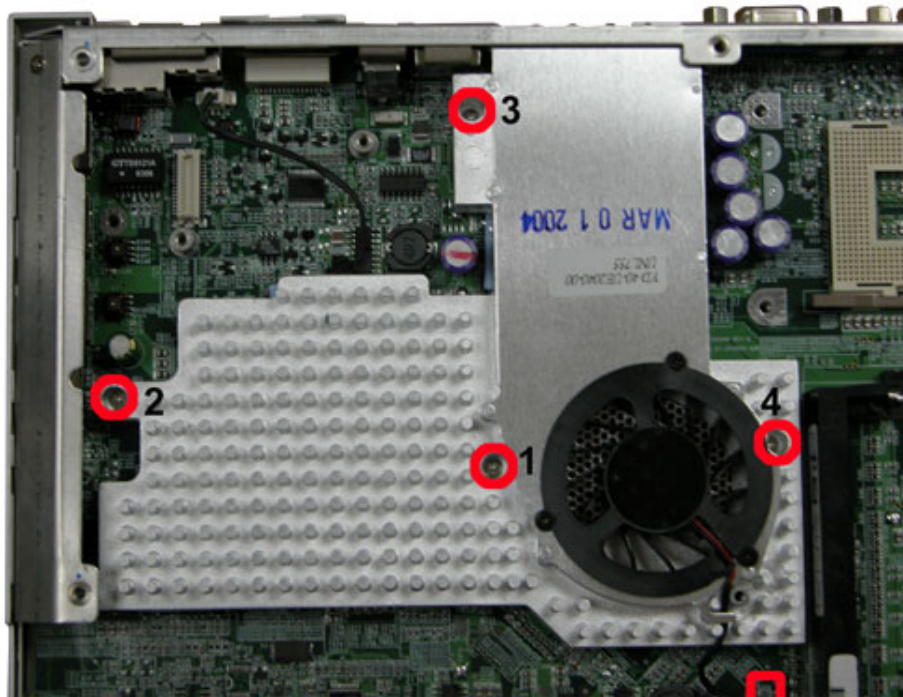

Fig. 24 Chipset Heat sink
1. Unscrew the screws on the Chipset Heat sink in descending order (4→3→2→1) disconnect the fan connector as shown in Fig. 24